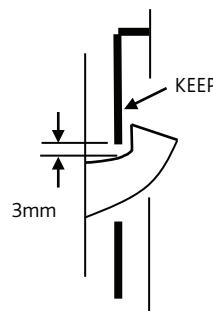

Fig 3.
- Hooks should be well engaged into their keep, nominal clearance 3mm from hook throat to keep aperture (measured vertically when locked) – **Fig 3.**